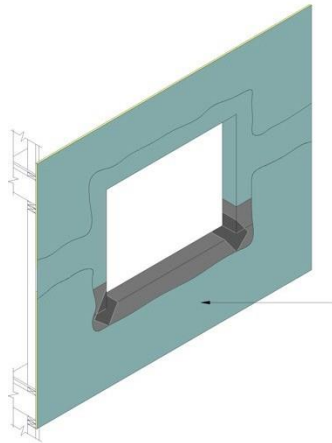

Fig. 12
- 4) Install the specified component (i.e. window, etc.) and associated flashings per manufacturer's directions and contract documents. Then apply Backstop NTX – Texture or Smooth to the remainder of the wall surface as described in Section VI and lap over the previously installed material around openings – Figure 12..